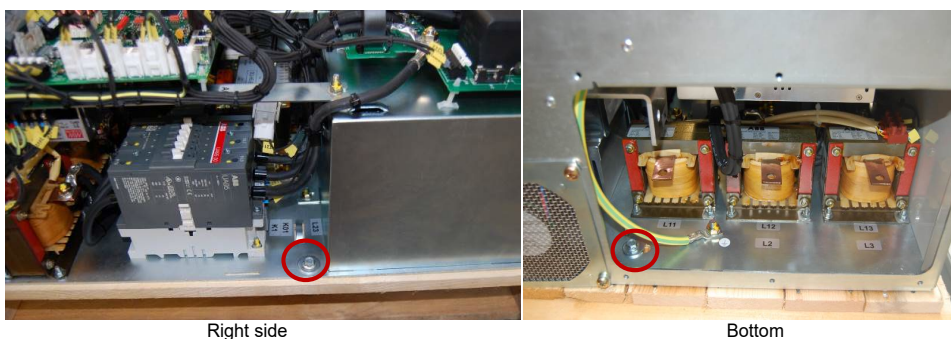

Figure 5: Position of the filter fixation screws that need to be removed
- Remove the two screws fixing the filter unit to the wooden support (see Figure 5).